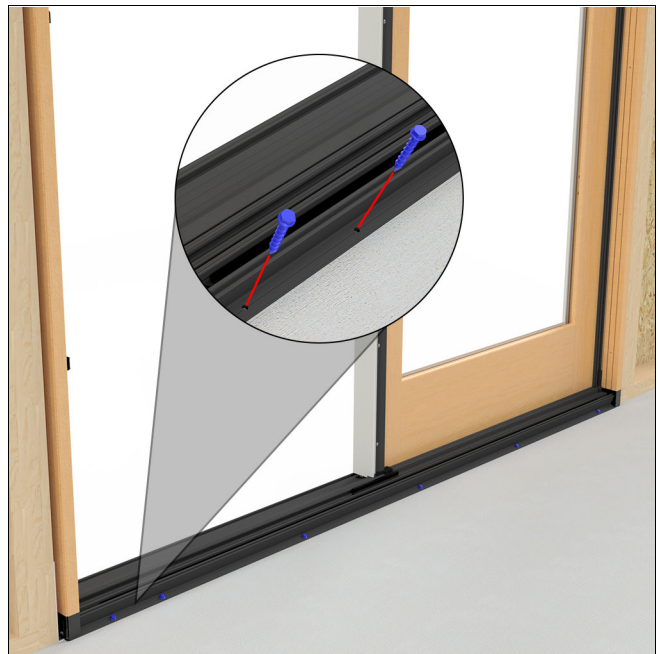

Figure 23
5. At the interior, fasten the sill with #8 x 1 1/2" screws into the pre-drilled holes in the sill flange. Use the appropriate fastener for your subfloor. (Concrete floors use masonry screws). See Figure 23.